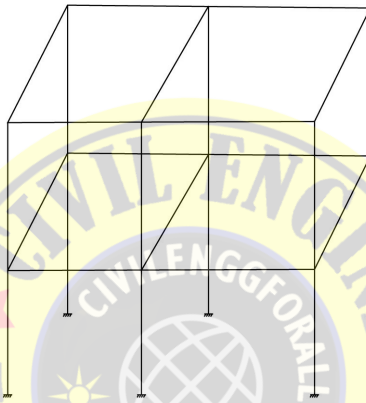

Fig. Q. 63
63. The degree of freedom of the rigid frame shown in Fig. Q. 63 is